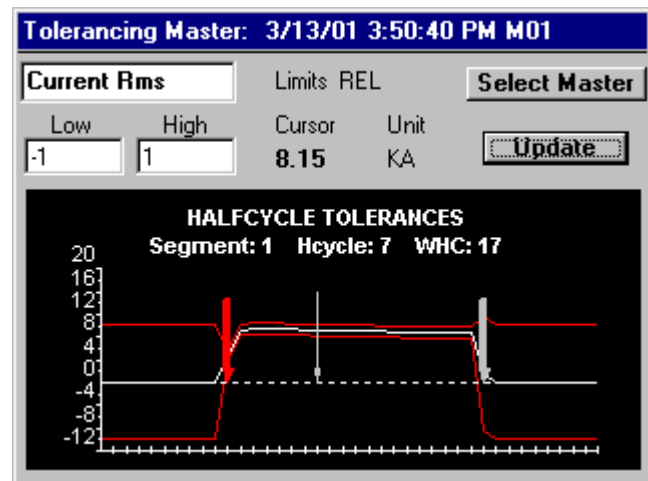

Figure 5-19 Master with Low/High tolerances changed
5. Click on the **Update** button. After a few moments, the screen should now look similar to figure 5-19. Notice that the tolerance bands have adjusted accordingly.